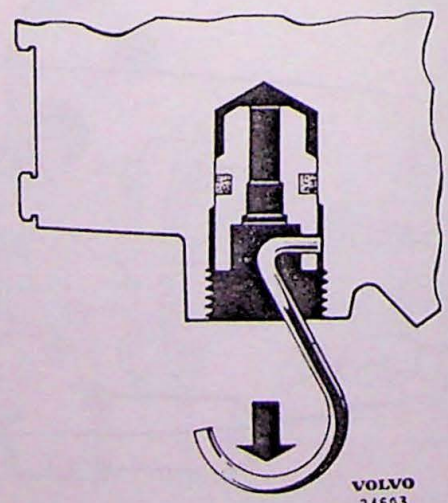

Fig. 3-42. Removing the valve seating, reducing valve
2. Remove the plug and take out the spring (11) and valve (12). Pull out the valve seating (10) with the help of a small hook, see Fig. 3-42.